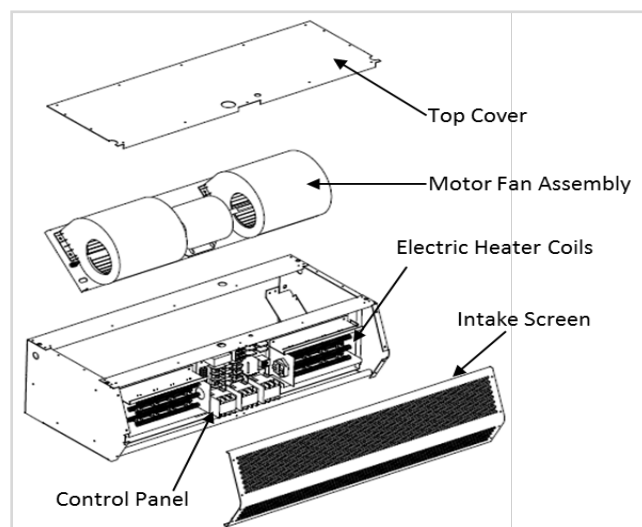

FIG. 1 (Electrically Heated STD2 unit)
1. Electrically heated Low Profile, Phantom, Standard2, High Velocity2 and Extra Power2 units come with internally mounted controls and comes with 24V control circuit as standard option (FIG. 1) except the Low Profile series that is available with an optional 24V controls with line voltage, 115V or 208-240V controls as typical offering.